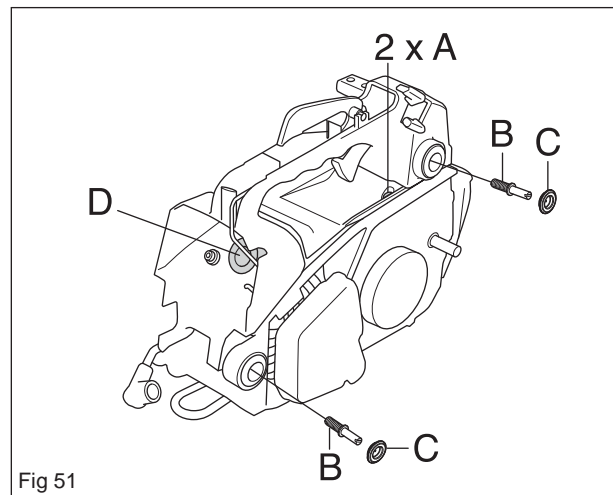
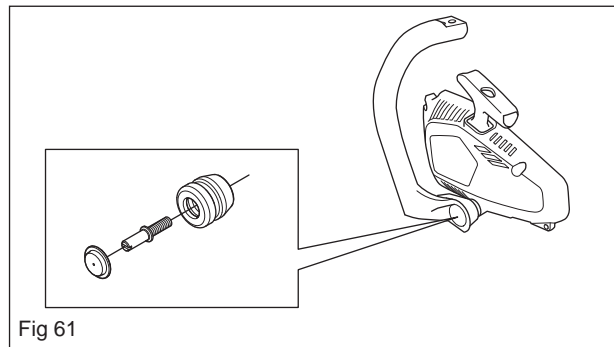

Fig 51
Fig 61
Bend loose the plastic covers C with a small screwdriver and loosen screws B (see figure 51). Unscrew screws 2xA and remove the cover.
Fit and tighten screws B and snap the plastic covers C into place using a small screwdriver. Screw on the cover with screws 2xA (see figure 51).
2. Dismantle the vibration damping springs on the starter housing using a 4 mm Allen key (see figure 61).
(see figure 61 and page 43 figure 51).